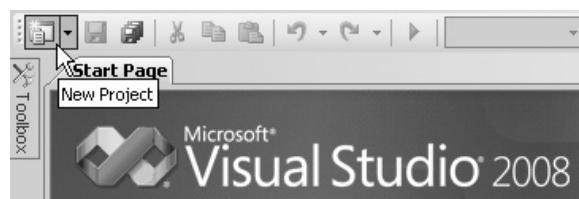

Figure 5-2 The New Project Toolbar button
- ▶ Click the New Project button on the toolbar, as shown in Figure 5-2.